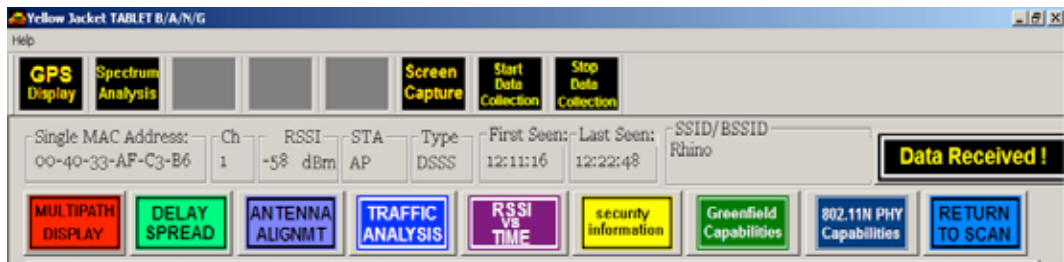

Figure 2. Single-MAC Function Window (excerpt from main screen)
7. Enter the “Single MAC Mode of Operation” by double-clicking on the selected device/row in Figure 1, to initiate the Single-MAC Function Window seen in Figure 2: